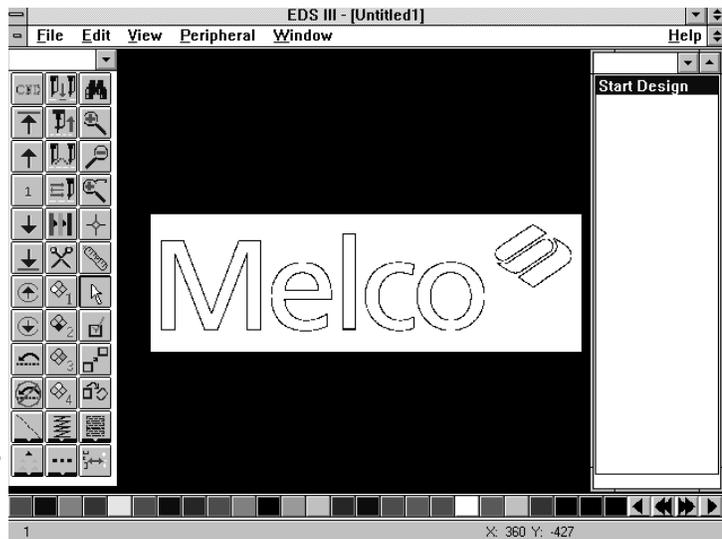

Figure 5-9
A new Object Edit window will appear on the screen with the Object Edit toolbar and stitch list on top of the loaded image (see Figure 5-9).
4. Click OK to return to the Object Edit window (see Figure 5-9) for digitizing.